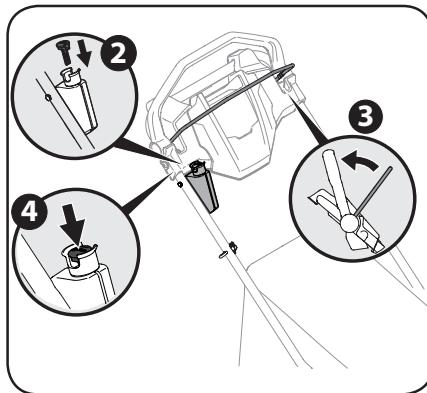

Figure 3-4
- Standing behind the mower, pull the blade control back against the drive control. See Figure 3-4.
- Push the electric starter push key to start the engine. See Figure 3-4.